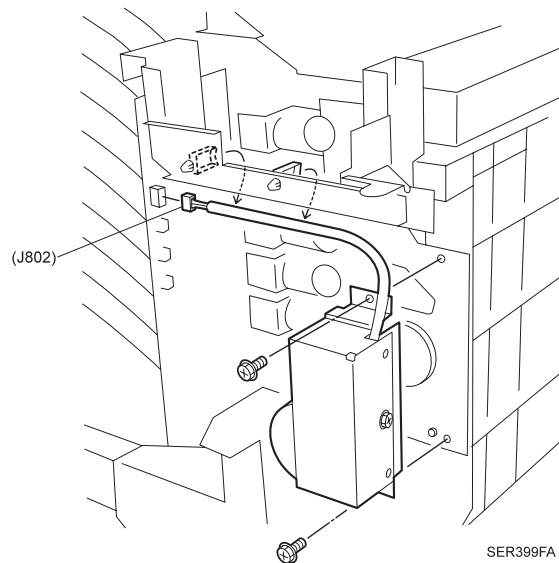

Figure 1-19. Sorter Drive Motor Assembly
4. Reinstall the Sorter Drive Motor Assembly to the frame, and use two screws to secure the Assembly to the frame (Figure 1-19).